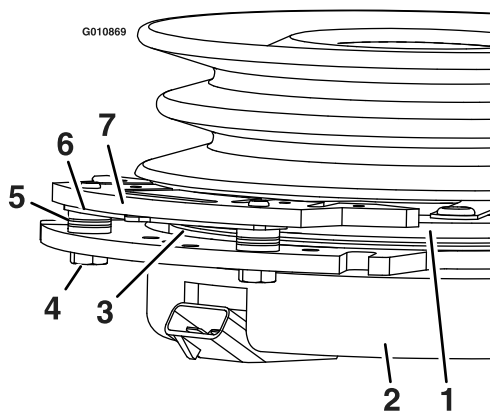

**Figure 66**
3. Remove the dust cap from caster and tighten the locknut (Figure 66).
4. Tighten the locknut until the spring washers are flat, and then back off a 1/4 turn to properly set the preload on the bearings (Figure 66).
**Important:** Make sure that the spring washers are installed correctly as shown in Figure 66.
5. Install the dust cap (Figure 66).